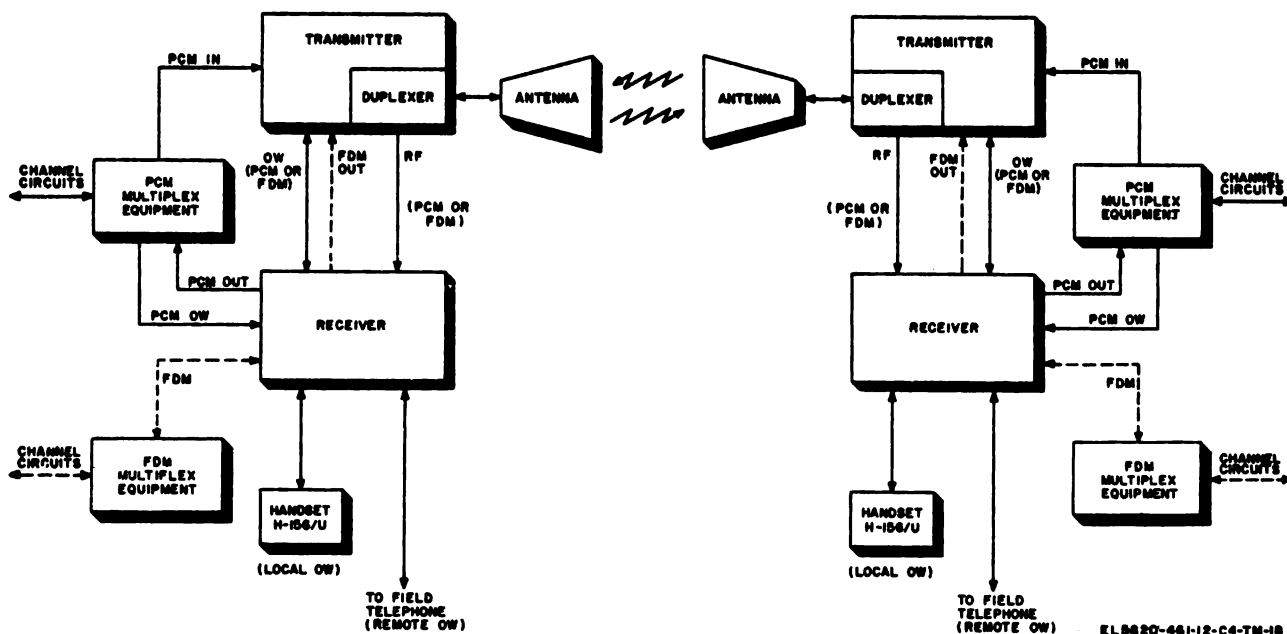

Figure 1-15. System Application using two terminals.
The radio set is designed specifically for system use and generally is not used without supporting multiplex equipment. When the radio set is used in a communications system where the radio link exceeds 30 miles (approximately 50 kilometers), a repeater station is required at each 30-mile interval. In addition to multiplex equipment, each repeater station is equipped with two complete radio sets, to allow simultaneous transmission and reception in two directions. As many as seven repeater stations may be used in a system. The signal paths for various configurations are covered in paragraphs 1-16 and 1-17. Throughout this discussion and accompanying illustrations (figs. 1-15 and 6-1), the equipment that comprises the transmitting portion of the radio set (T-893(P)/GRC, PP-2054(*)/GRC, and the AM-1957/GRC or AM-1958(*)/GRC) is referred to as the transmitter; the combination of the R-1148(P)/GRC or R-1331(*)/GRC and the AM-1955(*)/GRC or AM-1956(*)/GRC is referred to as the receiver.
(fig. 1-15)
a. General. Multiplex intelligence can be transmitted direct from one radio set terminal station to another at distances up to 30 miles (50 kilometers, approximately). The signal paths through this type of system are shown in figure 1-15 and are covered in *b* through *d* below.
(1) Multiplex signals (FDM) from fdm equipment are fed through the receiver to the transmitter (FDM OUT).
(2) The RF carrier of the transmitter, frequency-modulated by the multiplex signals, is coupled through the duplexer to the antenna for propagation towards the distant station.
(3) The signals received by the antenna at the distant station are fed through a duplexer in the transmitter to the receiver (RF). From the receiver, the signals (FDM) are routed to the fdm equipment.